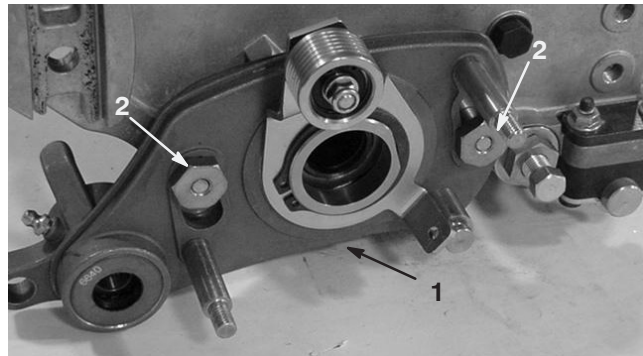

Figure 35
8. Remove the (2) shoulder nuts securing the groomer drive assembly to the side plate adapters (Fig. 35).